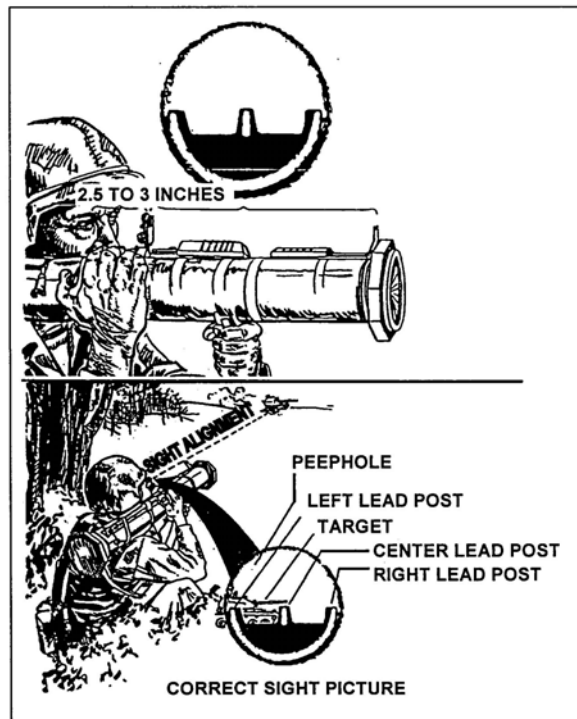

Figure 5. Correct Sight Picture
- b. Obtain the correct sight picture (Figure 5). Align and properly place the sights in relation to the target. In Figure 5, notice that the top center of the front sight posts is in the center of the rear sight peephole. Ensure that the white line on the front sight is just inside the peephole.